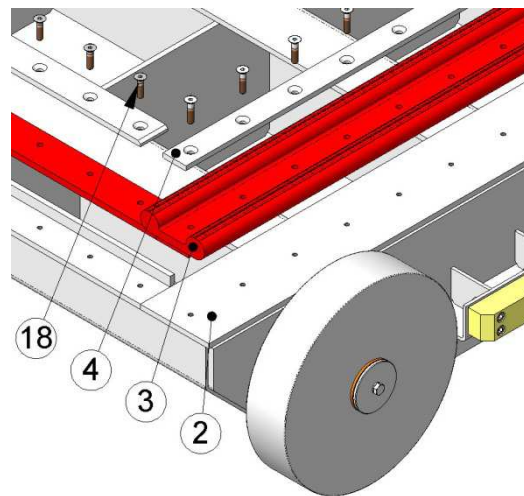

fig. 13
6. Replace the flanges (4), securing the sealing joint (3). It is important that the side and lower seals protrude around five millimetres from the lower part of the stopboard (2) in order to make the lower seal correctly. Bolt them down after checking they are correctly assembled.
**Note:** The numbers in brackets refer to fig. 13.